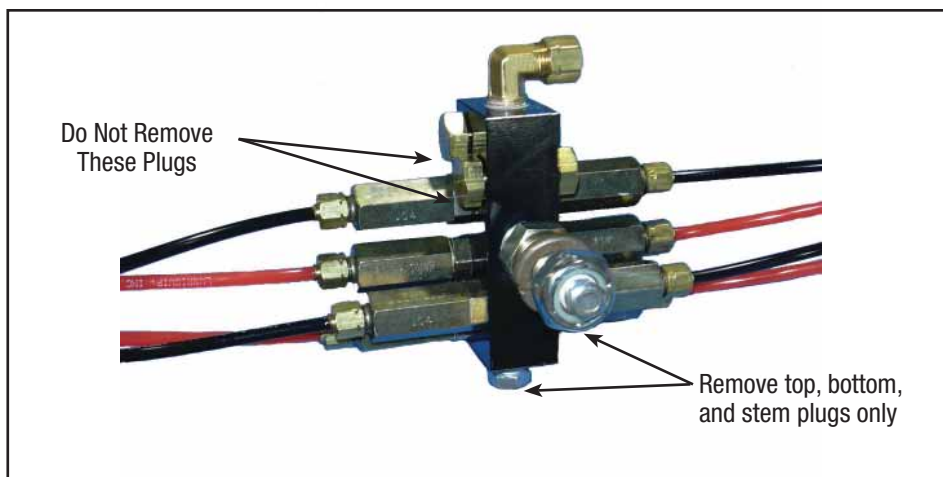

Figure 4
- Remove upper, lower and stem plugs from all manifolds. Do not remove any side meter outlet plugs. See figure 4.